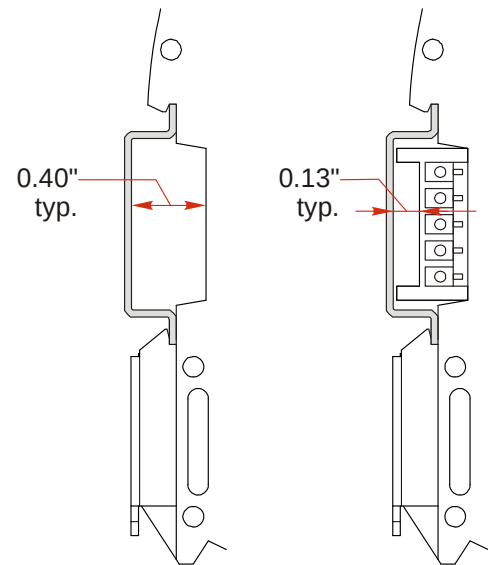

Figure 4.2 7.5 mm DIN Rail Installation
Figure 4.2 shows the amount of clearance space available for either a bolt head or a washer and nut when installing the 7.5mm deep DIN rail. The left side of the figure shows the clearance when installing a single ANG1(E) and the right side of the figure shows the clearance when using the IC-5 connector to interconnect multiple modules in an AnyNET-I/O Stack. When installing a single ANG1E module on 15mm deep rail, the clearance is 0.70 inches.